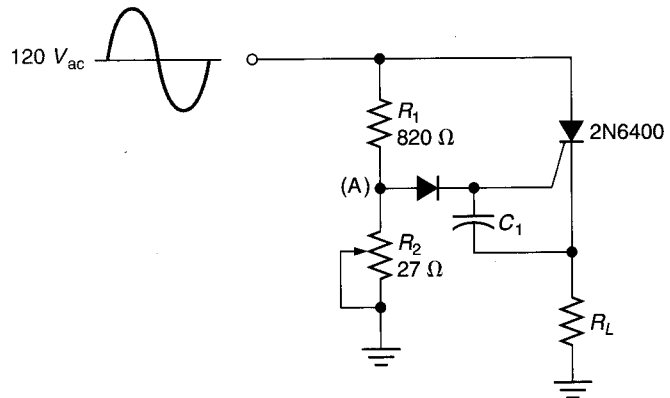

FIGURE 20.51
20. Refer to Figure 20.51.  $R_2$  in the circuit is set to the value shown. The spec sheet for the 2N6400 is given in Figure 20.11. Determine the conduction angle for the circuit load. (*Hint:* Start by finding the maximum value of  $v_{in}$  required to trigger the SCR.)